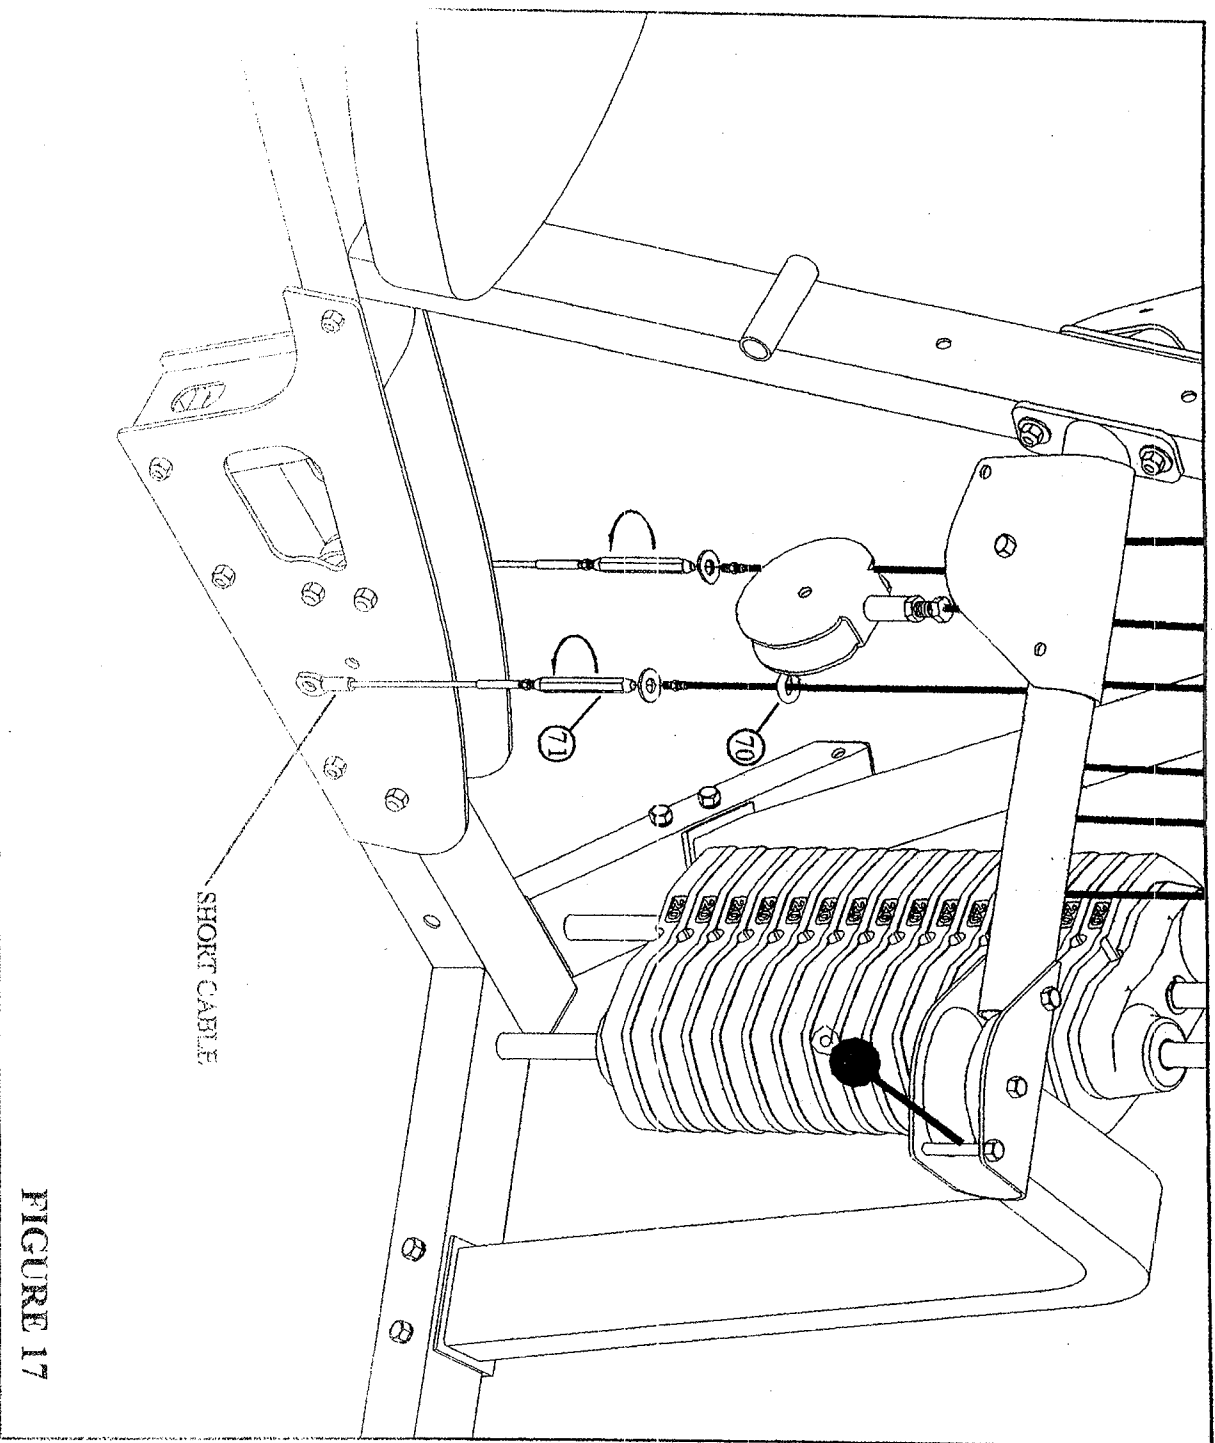

FIGURE 17
- CAREFULLY slide the GUIDE BRACKET (70) through the GUIDE CABLES (71) as shown in FIGURE 17.
- Assemble the SHORT CABLE and the turnbuckle to each GUIDE CABLE (71) as shown in FIGURE 17.
- Adjust the turnbuckle on each GUIDE CABLE (71) to add tension to the GUIDE CABLES (71) until they are taut. Secure turnbuckle with the JAM NUTS as shown in FIGURE 17.